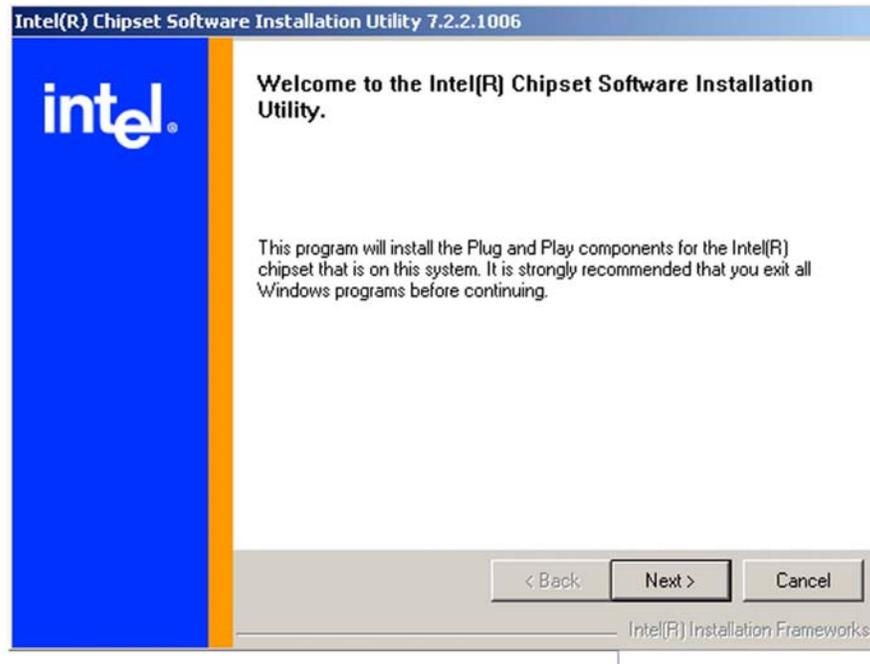
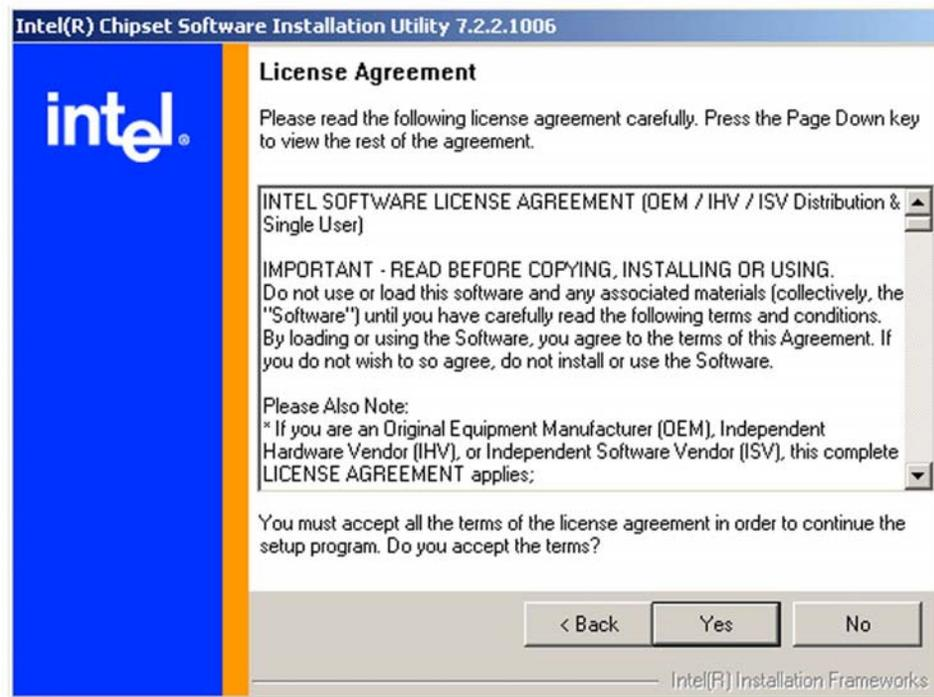

Figure 6-1: Chipset Driver Installation Welcome Screen
Figure 6-2: Chipset Driver Installation License Agreement
Step 2: Once you double click the **setup** icon, a welcome screen shown in **Figure 6-1** appears.
Step 3: After the welcome screen shown in **Figure 6-1** appears, to continue the installation process click the “**NEXT**” button. The license agreement shown in **Figure 6-2** will appear.
Step 4: Read through the license agreement in **Figure 6-2**. If you choose to accept the terms and conditions stipulated in the agreement then click the “**YES**” button.